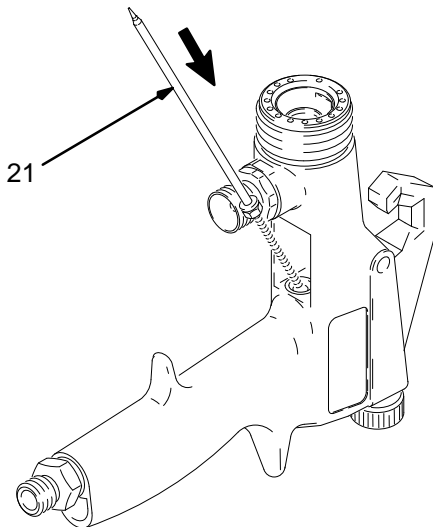

Fig. 4
10. Use the threaded end of the fluid needle (21) to push out the u-cup seal (33) as shown in Fig. 4.